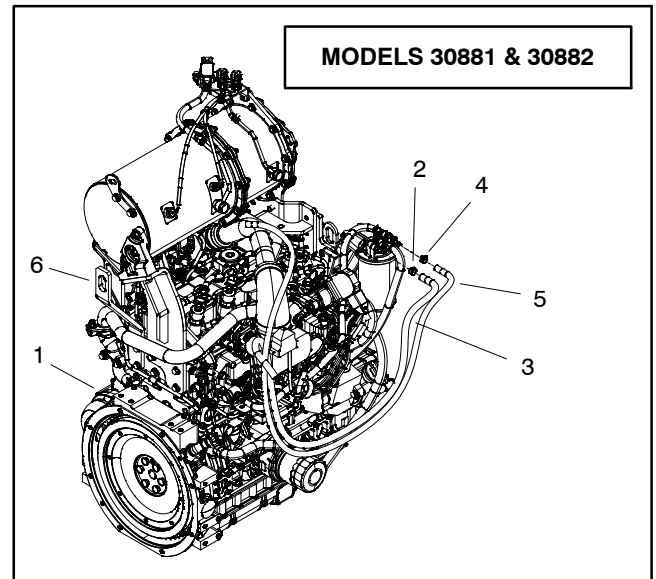

Figure 14
7. Disconnect fuel supply and return hoses from injection pump (Fig. 14 or 15). Cap fuel hoses and injector pump fittings to prevent contamination.
4. Align engine mount brackets to the engine mounts (item 7). Secure engine mount brackets to engine mounts with cap screws, rebound washers and flange nuts.
8. Remove caps from fuel hoses and injector pump fittings that were placed during engine removal to prevent contamination. Connect fuel supply and return hoses to injection pump (Fig. 14 or 15). Secure hoses with hose clamps.